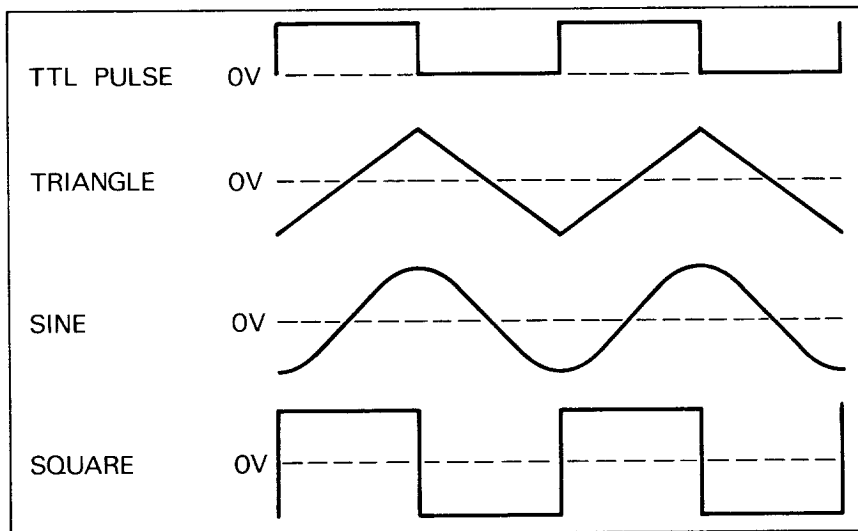

Fig. 3. Output waveform and phase relationships.
1. With the unit plugged into a power source, depress the POWER button (1).
2. Select the frequency range desired by depressing the appropriate RANGE switch. The frequency range obtained as the FREQUENCY dial (6) is varied will be from one-tenth the indicated RANGE value to 10 times this value. For example, select the 10 K range. When the FREQUENCY dial is at .1, the output frequency is 1 KHz; when at 1, it is 10 KHz and when at 10 the frequency is 100 KHz. The frequency obtained applies to the signal at the TTL jack as well as the 600Ω OUTPUT jack.
3. Select the waveform desired by depressing the appropriate FUNCTION button. The phase relationships of the waveforms available are shown in Fig. 3.
4. The amplitude of the selected output signal at the 600Ω OUTPUT jack is adjusted by AMPLITUDE control (4). The TTL output is not affected by the AMPLITUDE control.